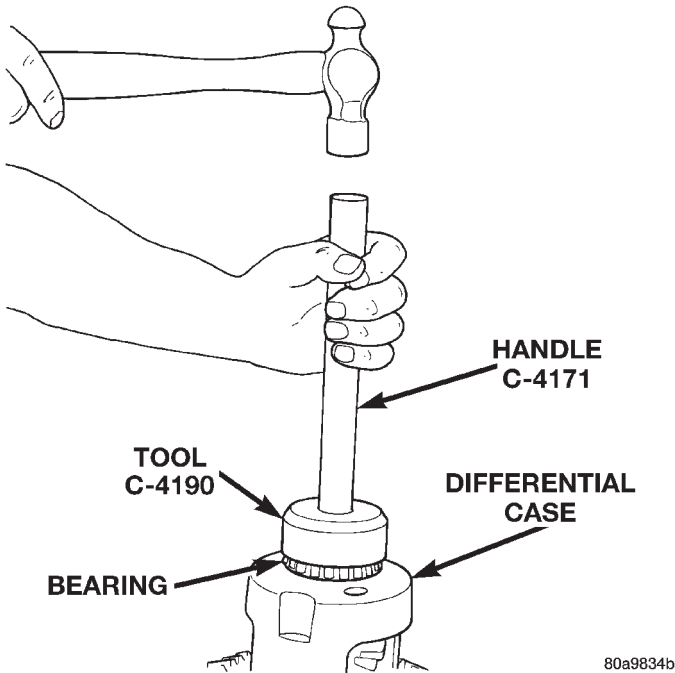

Fig. 37 Install Differential Side Bearings
(1) Using tool C-4190 with handle C-4171, install differential side bearings (Fig. 37).